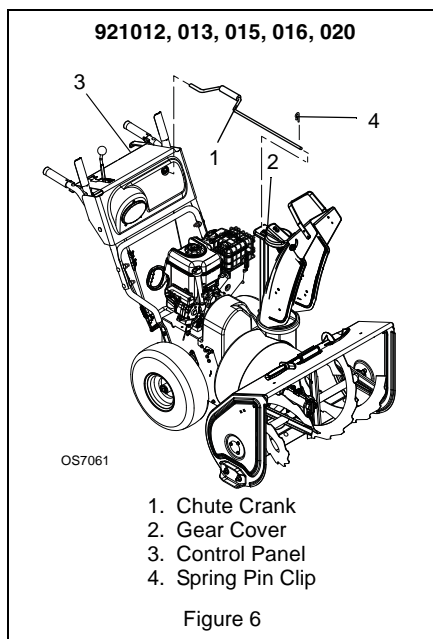

Figure 6
(Figure 6 and 7)
2. Remove mounting hardware from auger housing (Figure 6).
6. Orient the chute and pedestal to its most vertical position and tighten pedestal hardware to 15 – 31 lbf-ft (20 – 42 N•m) (Figure 6).